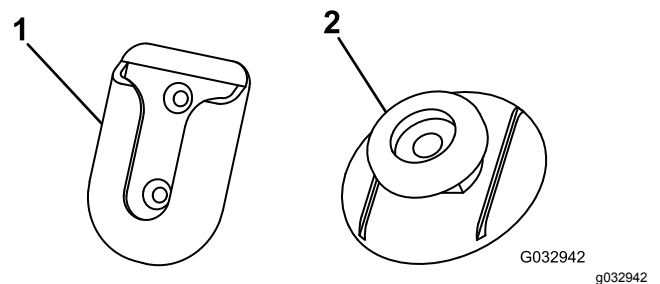

Figure 9
4. Clean the back of the swivel mount (Figure 9) with the alcohol wipe and then dry it.
8. Remove the backing from 1 side of the adhesive and apply it to the back of the mounting tab (Figure 9).